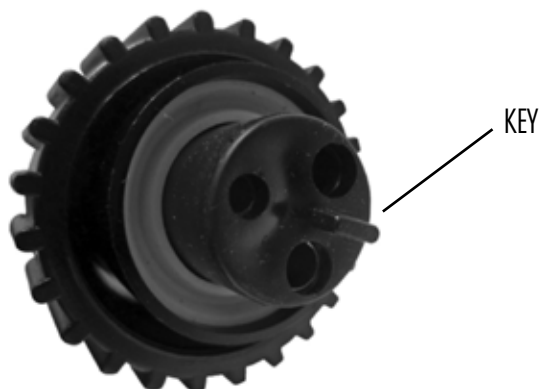

Figure S4
1. Ensure the gasket is secured inside the black plug of the long cable (15m) as shown in Figure S4.